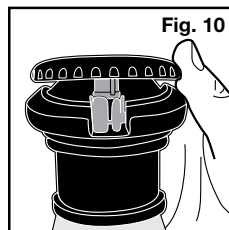

Fig. 10
2. On the filter housing cap, align the flow control cap with the raised notches (**Fig. 10**). Press down gently and the flow control cap will snap into place. With the flow control cap, you will be able to easily adjust the intensity of the water flow. Turn the flow control cap to the right to increase the flow of water and turn to the left to decrease.